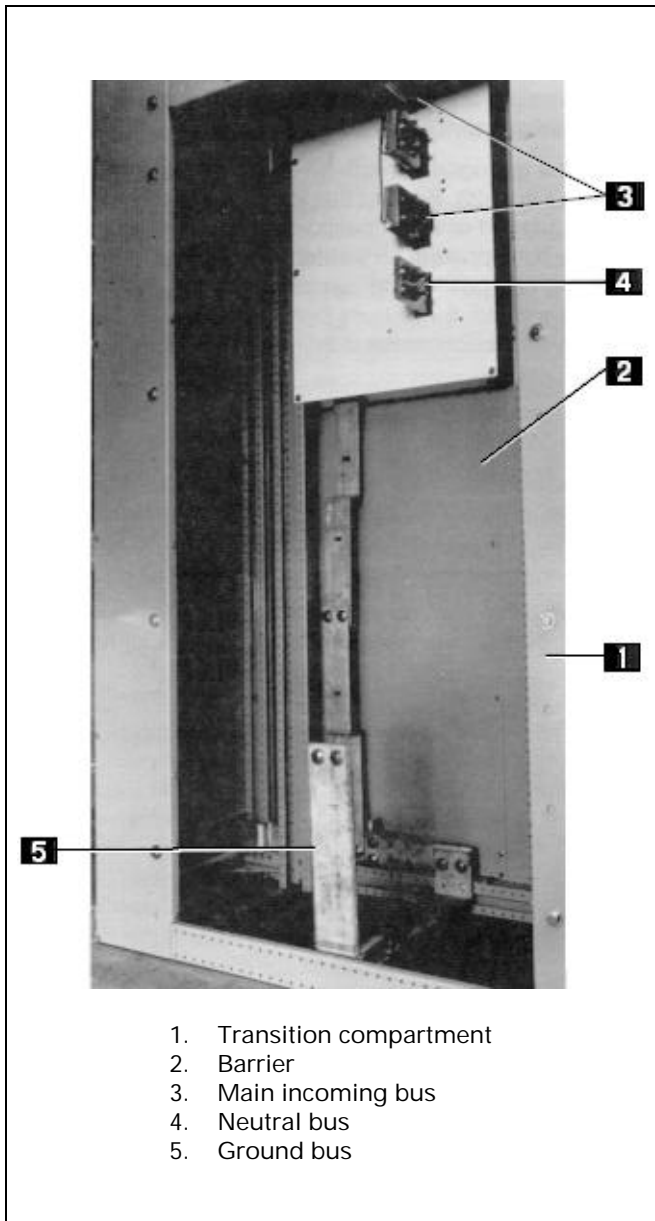

Fig. 3-17. Transition section
A vertical barrier (2), Fig. 3-17, between the transition section (1) and the first breaker section is always furnished.